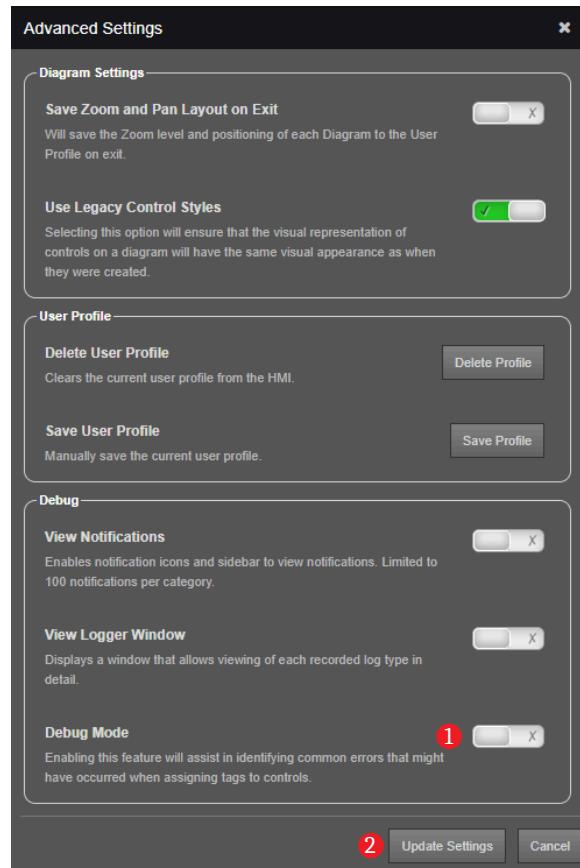

Figure 3.52 HMI Advanced Settings Menu
Step 3. Enable **Debug Mode** and select **Update Settings**, as shown in *Figure 3.52*.